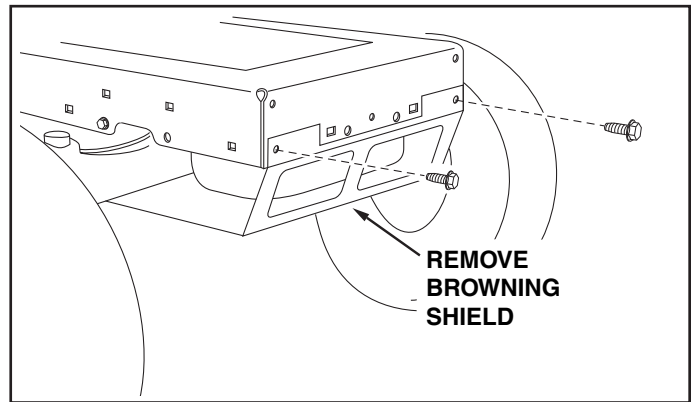

FIGURE 2
4. Remove the browning shield from the front of the tractor as shown. Hold onto the shield as you remove the second bolt to prevent it from falling. See figure 2.